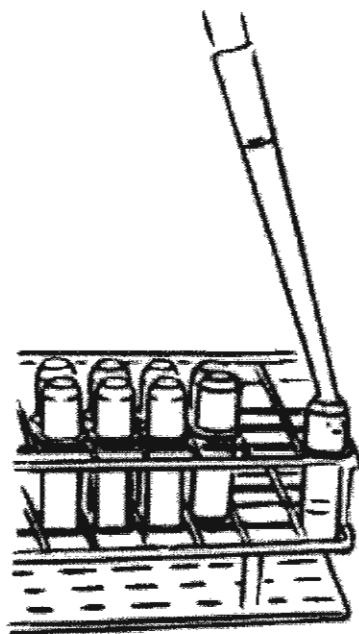

Figure 2. Placing Sample in Tubes
- 5.3 Put the sample tubes into the sample rack, up to 21 for the block. Add one boiling chip to each tube. Pipette 6.0ml of calibration standard, sample, spike, blank, CC standard or 2nd source standard into each sample tube (Figure 2).